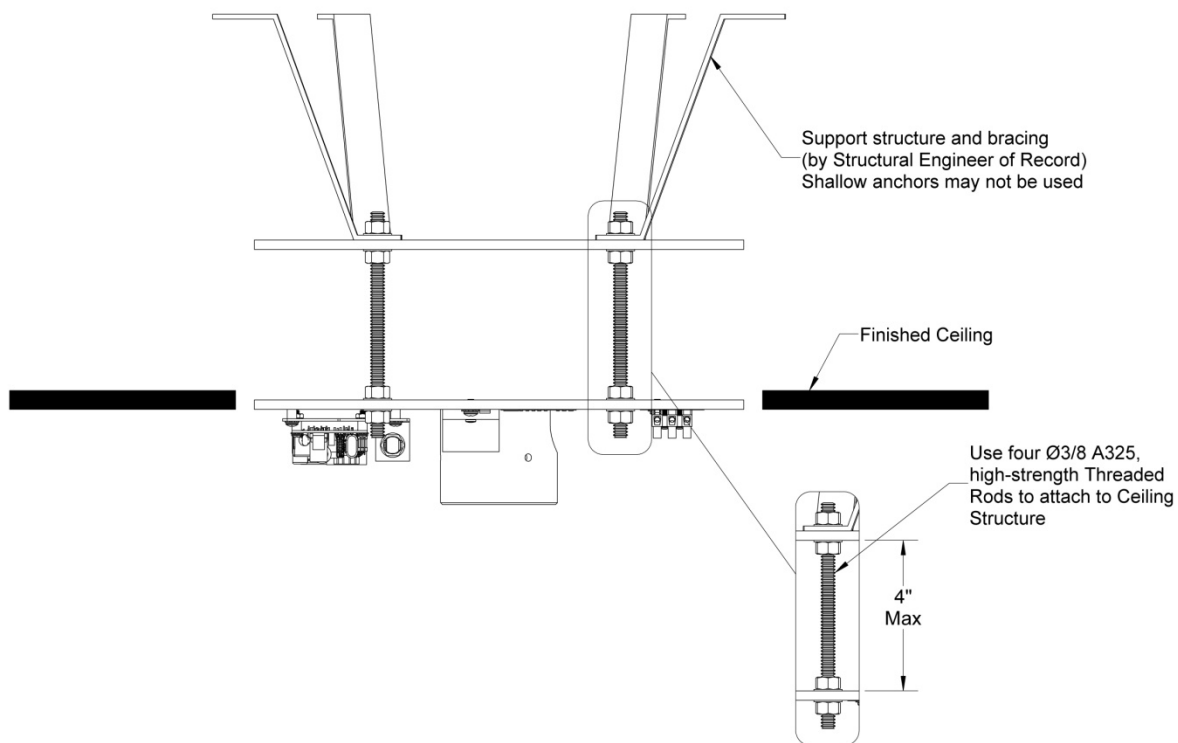

Figure 3: Recommended Ceiling Structure Construction
- Mount the Ceiling casting to the ceiling structure using four $\frac{3}{8}$ " DIA Grade-8 bolts with nuts and washers as shown in Figure 3.